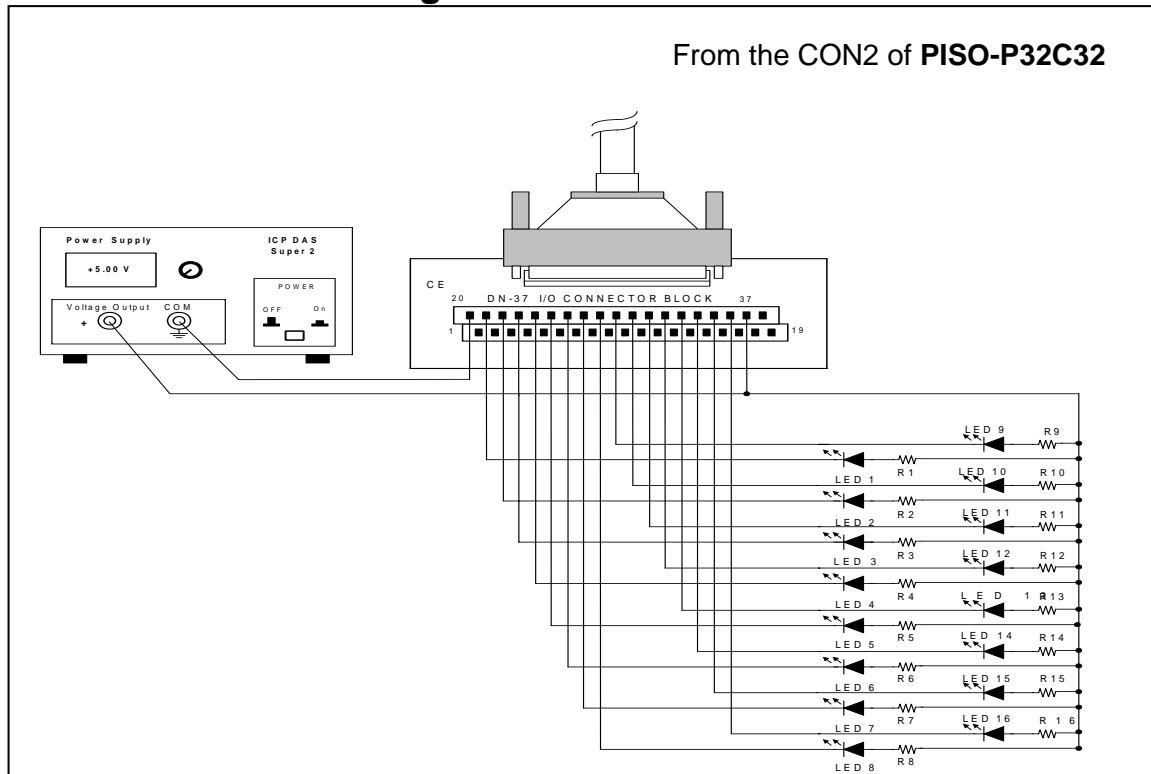

Figure 4-1-4. The circuit diagram of external device 2 for the digital outputs of **PISO-P32C32**
- Figure 4-1-4(PISO-P32C32) shows the circuit diagram of external device 2